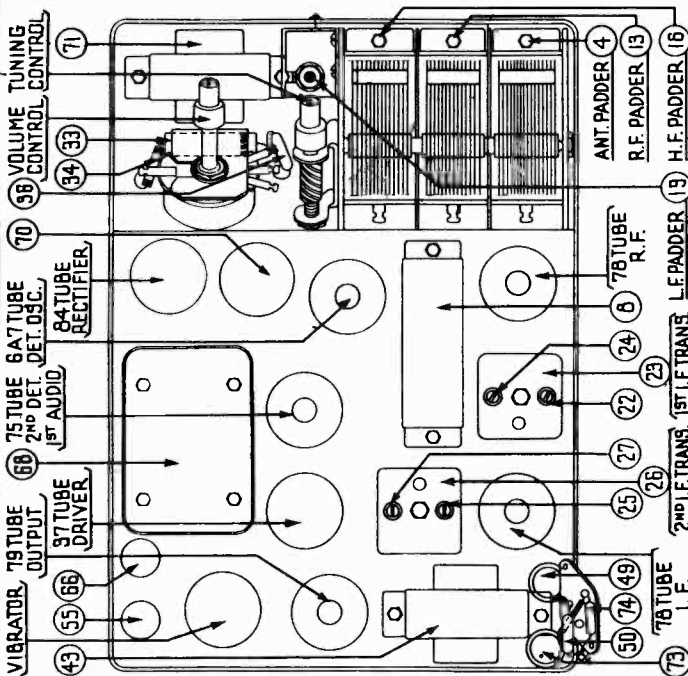

FIGURE 4
Both the primary and the secondary padders are placed side by side in the top of the transformer shield can. The adjusting screws are accessible thru the holes in the top of the shield. (See Figure 4).
Adjust the secondary screw padder ② on the second I. F. transformer for maximum reading on the output meter. Then adjust the primary screw padder ③ for maximum reading (See Figure 4 for location of padders).
Connect the generator lead to the grid cap of the 6A7 tube in series with a .1 mfd. condenser (without removing the grid cap). Adjust the secondary screw padder ④ on the first I. F. transformer for maximum reading on the output meter. Then adjust the primary screw padder ⑤ for maximum reading. Readjust padders ③ and ② with the generator lead connected to the type 6A7 tube. (See Figure 4 for location of padders).